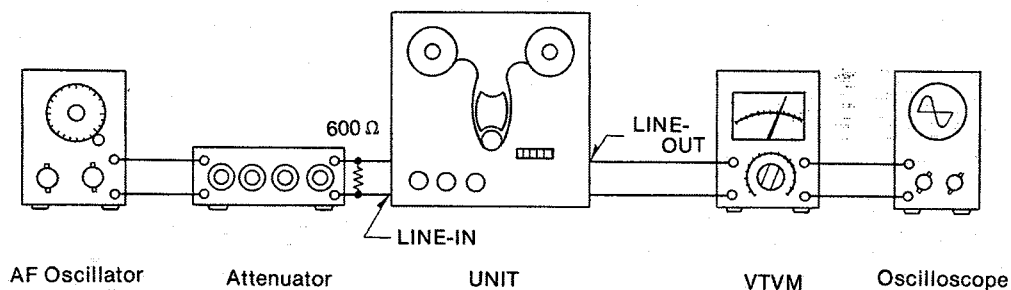
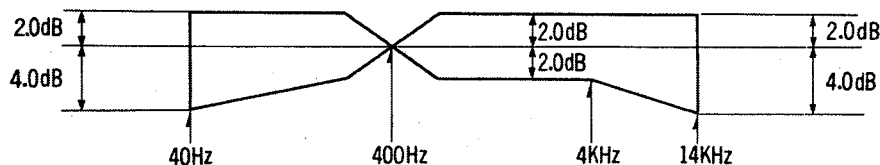

Fig. 36
Fig. 46
Standard recording level	1. Test equipment connections are shown in fig. 36. 2. Supply 1 kHz signal ($-24\text{dB} \pm 3\text{dB}$) from AF oscillator, through ATT, to LINE-IN jacks. 3. Set the output control to "8" position on front panel and confirm that the output level at LINE-OUT jacks on VTVM becomes 0.55V. [Adjustment] 1. If the measured value is not within standard value, adjust the Line-in level adjustment VR, VR101 (L-CH) and VR201 (R-CH), (See fig. 37.) Standard recording levels: Line-in: $-24\text{dB} \pm 3\text{dB}$ Mic-in: $-72\text{dB} \pm 2\text{dB}$
Level meter for source monitor	1. Test equipment connections are shown in fig. 36. 2. Set the monitor selector to "SOURCE" position. 3. Set the output control to "8" position on front panel. 4. Supply 1 kHz signal ($-24\text{ dB} \pm 3\text{ dB}$) from AF oscillator, through ATT, to LINE-IN jacks. 5. Adjust ATT so that the output level at LINE-OUT jacks on VTVM becomes 0.55 V. 6. Then confirm that the level meter indicates 0 VU position. [Adjustment] 1. If the level meter does not indicate 0 VU position in the above condition, adjust the level meter adjustment VR, VR108 (L-CH) and VR208 (R-CH). (See fig. 37.) [Confirmation] 1. Place unit into the above measurement condition. 2. Set the meter scale selector to "+6 dB" position. 3. Confirm that the level meter indicates within $-3 \pm 1\text{ VU}$ on "+3 dB" scale.
Level meter for tape monitor	1. Test equipment connections are shown in fig. 36. 2. Place unit in the same condition as for "Standard recording level adjustment." 3. Thread "open" blank test tape (QZZORA218EX). 4. Set the meter scale selector to "+3 dB" position. 5. Set the monitor selector to "tape" position (both channels). 6. Set the recording mode selector to "ON" position (both channels). 7. Place unit into recording mode. 8. Then confirm that the level meter indicates 0 VU. [Adjustment] 1. If the level meter does not indicate 0 VU in the above condition, adjust the level meter adjustment VR, VR109 (L-CH) and VR209 (R-CH). (See fig. 37.)
- * Measurement instrument connections are as shown in figure 36.
Overall frequency response	1. Test equipment connections are shown in fig. 36. 2. Thread blank test tape QZZORA218EX. 3. Supply 400 Hz signal (-24 dB ± 3 dB) from AF oscillator, through ATT, to LINE-IN jacks and adjust ATT so that the output level at LINE-OUT jacks on VTVM becomes 0.55 V. 4. Next, adjust ATT so that the input level is -20 dB below standard recording level. (Standard recording level = 400 Hz, -24 dB) 5. Place unit into recording mode. 6. Set the monitor selector to "Tape" position (both channels). 7. Record each frequency (400 Hz, 30 Hz, 60 Hz, 150 Hz, 1 kHz, 10 kHz, 20 kHz and 30 kHz) at the same level. 8. Playback (or tape monitor) and express in dB the difference between playback (or tape monitor) output level of each frequency based on playback (or tape monitor) output level of 400 Hz. 9. Make sure that the measured value is within the range specified in the overall frequency response chart, as shown in fig. 46. 10. If the measured value is not within the range specified, adjust following points.
6. Next vary the input signal frequency between 24 kHz and 5 kHz, and confirm that the frequency response is within the range shown in fig. 46.
9. If it is not within 0— – 1 dB, adjust VR505 and VR504 for within this range. 10. Once again change the tape speed to 19cm/s, and input signal frequency to 24kHz, and confirm that playback output is as described in step 4 above. 11. If it is not, adjust peaking coils L101 (for L-CH) and L201 (for R-CH) shown in figure 47. After the above measurements and adjustments, measure the overall frequency response at 19cm/s and 38cm/s tape speeds, and confirm that it is within the range shown in fig. 46. Characteristics at 9.5 cm/s tape speed After adjustments described above are complete for 38cm/s and 19cm/s, confirm frequency response at 9.5 cm/s. 1. Record an input signal of 14kHz, – 44 dB at 9.5 cm/s tape speed, and measure the playback output. 2. If the measured value is not within the range shown in fig. 46, adjust VR506 so that it is within this range.
Dummy coil	The purpose of Dummy coils adjustment is to obtain overall frequency response specified with mono-channel recording. Specification: Within $\pm 2\text{dB}$ at 16kHz with relation to overall frequency response specified with stereo mode. 1. Test equipment connections are shown in fig. 36. 2. Set tape speed selector to 19cm/s. 3. Set bias selector to "2" position. 4. Set equalizer selector to "2" position. 5. Thread blank test tape QZZORA218EX. 6. Set recording mode selectors to "ON" position. 7. Apply an input signal of 16kHz, -44dB and set the unit for recording. 8. Measure the playback outputs of both channels. 9. Next change recording mode selector L-CH only to "OFF" position. 10. Confirm whether or not R-CH playback output is, with relation to the output in step 8 above, within $\pm 2\text{dB}$. 11. If it is not, adjust dummy coil L501 so that it is within this range. 12. Next set the L-CH recording mode selector to "ON" position, and R-CH to "OFF" position. 13. Make the same measurements and adjustments described in steps 10 to 11 above. (Note, however, that peaking coil L502 is to be adjusted.)